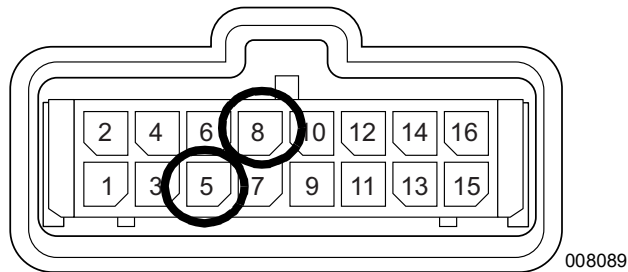

Figure 3-23. ECU/Carburetor Connector
2. See Figure 3-23. Remove ECU/throttle body connector (CONN1). Probe the two GN/WH Wires and measure resistance. Approximately 378 ohms should be measured.